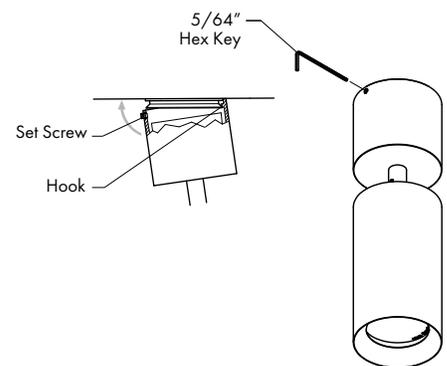

FIG 4.6 Secure Fixture to Mounting Surface
STEP 7 Position Fixture Canopy over Mounting Collar as desired & tighten set screw in Canopy - **FIG 4.6**.